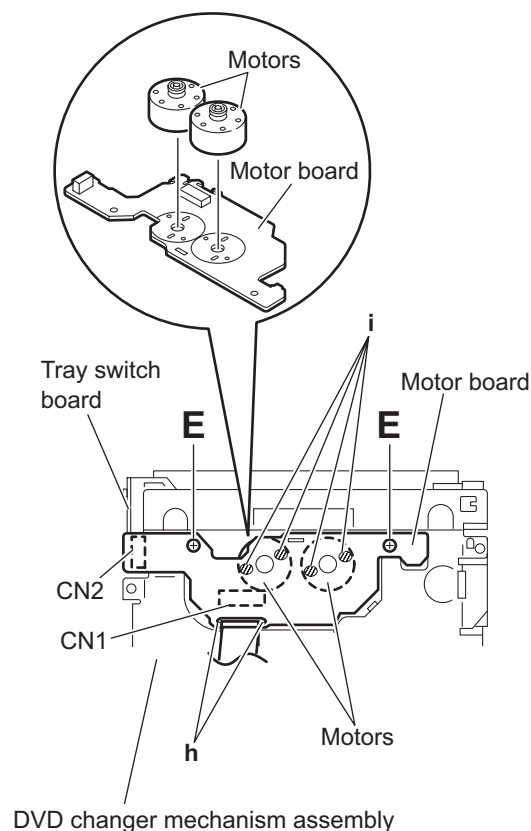

Fig.10
- (3) From the bottom side of the DVD changer mechanism assembly, remove the two screws **E**. (See Fig.10.)
- (4) Disconnect the connector **CN2** on the motor board from the tray switch board and remove the motor board. (See Fig.10.)
- (5) Disconnect the card wire from the connector **CN1** on the forward side of the motor board. (See Fig.10.)
When connecting the card wire, let the card wire through the slots **h** of the motor board. (See Fig.10.)
3.2.5 Removing the motor (See Fig. 10)